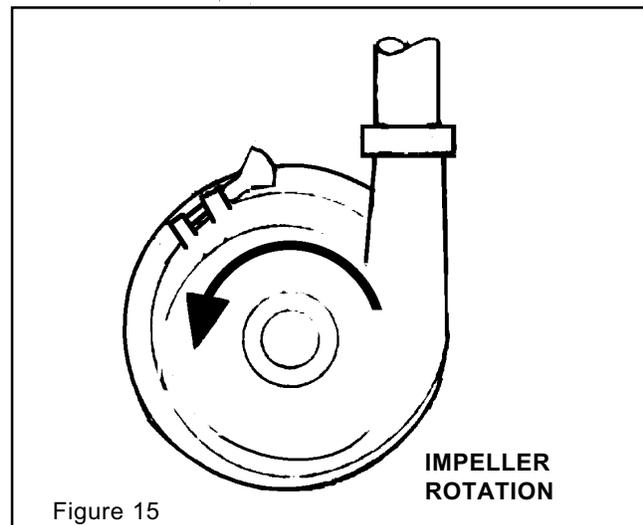

Figure 15
3. Following electrical installation, check pump rotation. **Facing pump, the correct rotation is counterclockwise.** (Figure 15) Do this procedure after disassembly for final cleaning and prior to **FINAL PUMP CHECK**.